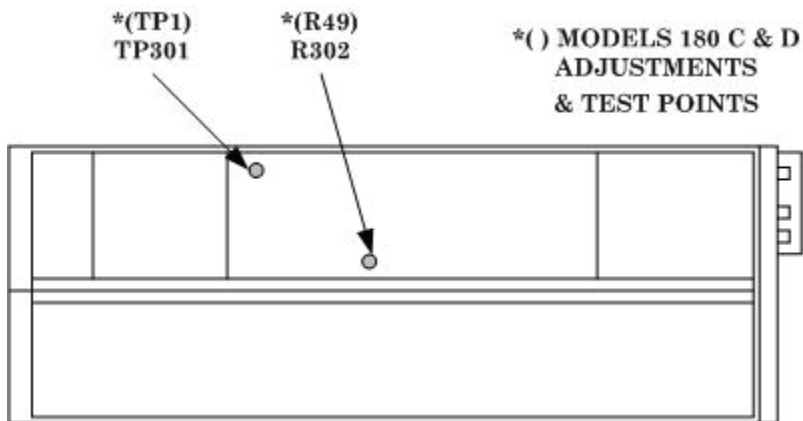

Figure 2. Oscilloscope - left view.
a. Performance Check. Connect multimeter between TP301 (TP1 for models 180C and D) (fig. 2) and chassis ground, using high voltage probe. If multimeter does not indicate between -2935 and -2965 V for all models except models 180C and D, and -3135 and -3165 V for models 180C and D, perform **b** below.
b. Adjustments. Adjust R302 (fig. 2) for -2950 V indication on multimeter for all models except models 180C and D. Adjust R49 (fig. 2) for V indication on multimeter for models 180C and D.